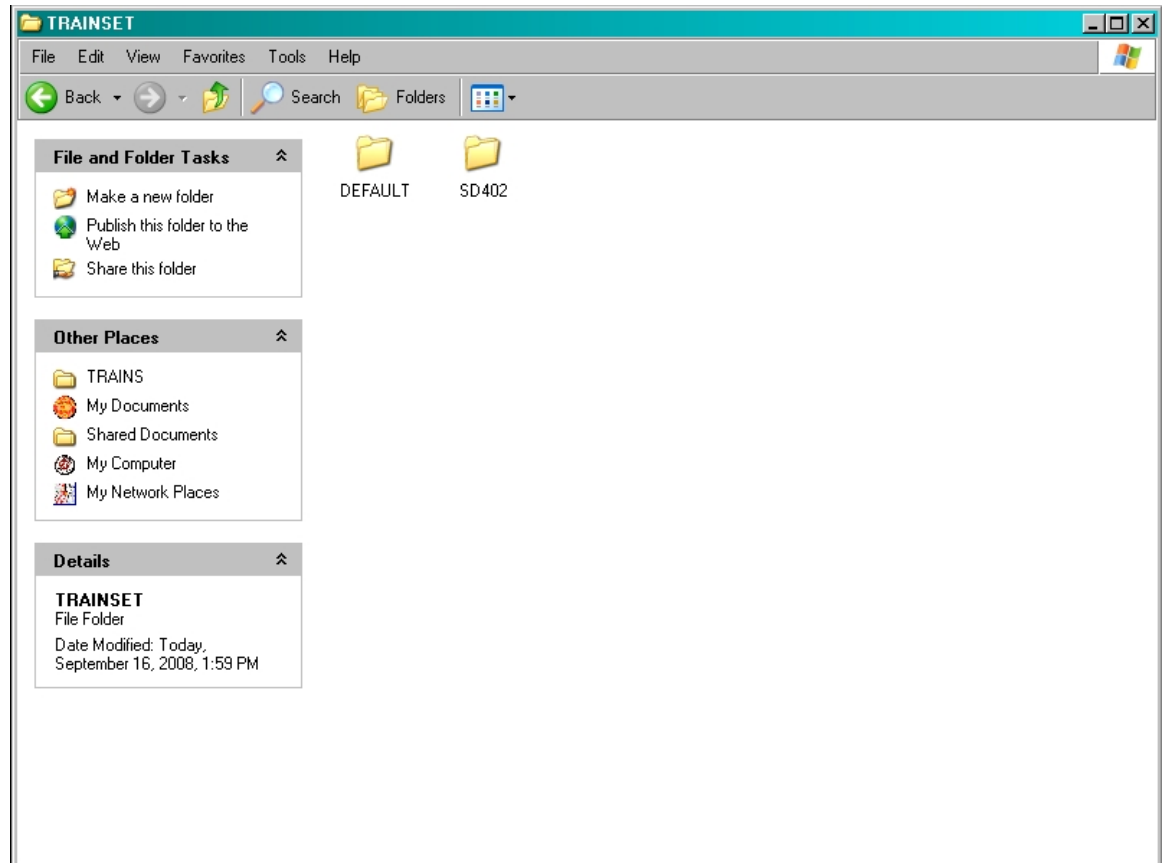

Figure 2
1. Copy and paste your **SD402** folder from your **"XTRAINSET"** folder to your new **"TRAINSET"** folder. It should now look like Figure 2.